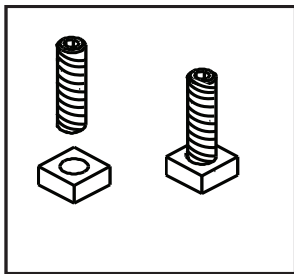

Figure 19.1
1. Thread Allen bolts through nuts until flush. **Figure 19.1.** The Allen bolts and nuts are included in the component pack inside the appliance firebox.